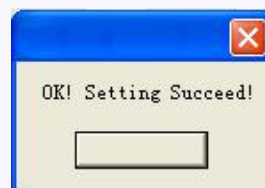

Fig. 7.10.13 Setup Time Succeed
d. Display system time in this dialog box, click "Set", cue shown as Fig. 7.10.13 appears, to renew time of xLogic succeed.